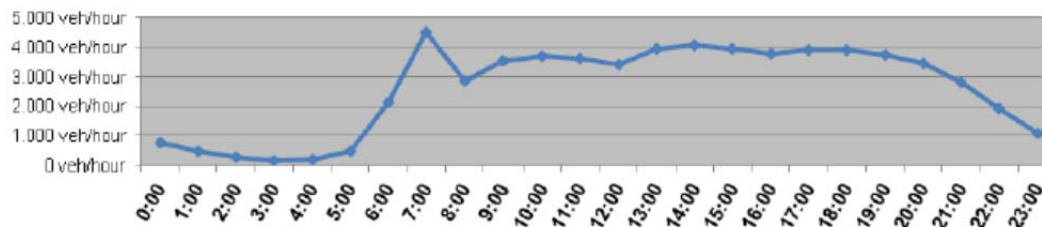
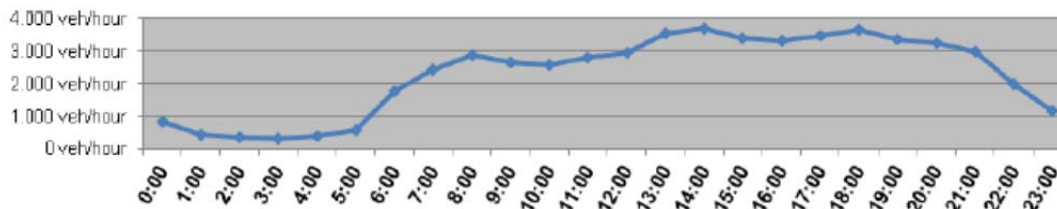

Figure 7 – Hourly traffic distribution main tunnel – weekday - westbound
Figure 8 – Hourly traffic distribution main Tunnel – weekday- eastbound
- Hourly traffic distribution during the day for working days in the main tunnel: **(Figure 7: westbound) – (Figure 8: eastbound)**.